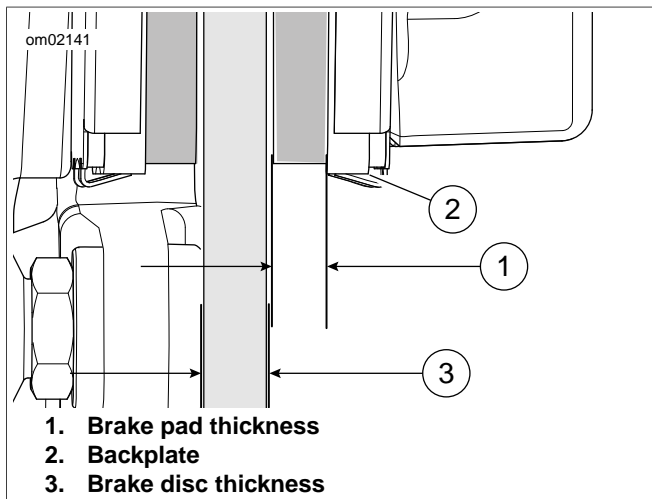

Figure 28. Brake Thickness
2. See Figure 28. Measure the thickness of the brake pad friction material.